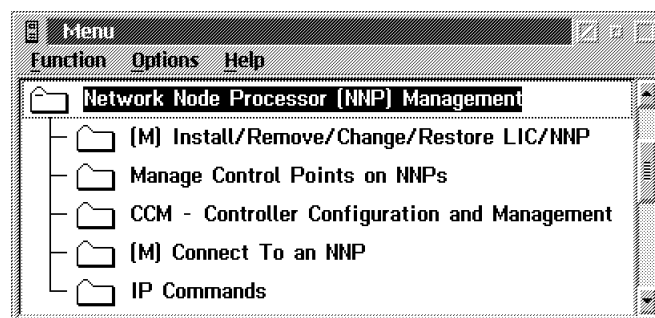

Figure 2-5. Network Node Processor Management Functions
All maintenance functions are identified by an **(M)** preceding the text (example: see Figure 2-5 function "(M) Install/Remove/Change/Restore LIC").